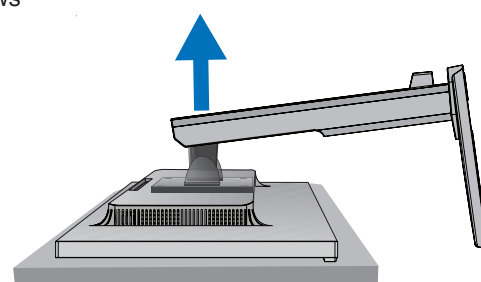

Figure S.2
- Remove the monitor stand (**Figure S.2**).